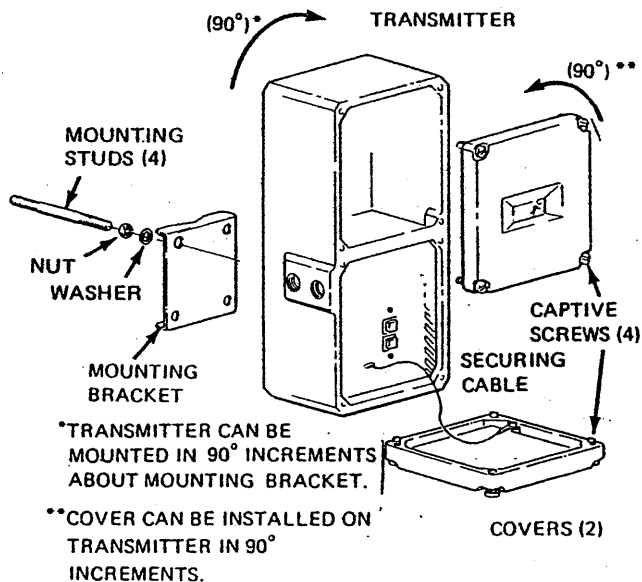

Figure 18.
Symmetrical arrangement of mounting holes in transmitter and mounting hardware allow transmitter to be turned about mounting bracket in 90° increments. This permits a variety of transmitter orientations as shown in Figure 18. Transmitter covers can also be turned in 90° increments by unscrewing four screws. This permits transmitter display and data plate to be turned so they can be easily read. When reinstalling terminations cover, make certain that securing cable (shown in Figure 18) is inserted fully behind cover and not crimped between cover and transmitter housing.
Certifying agencies require terminations cover to be permanently attached to transmitter. This is done by means of the securing cable (see Figure 18). DO NOT DISCONNECT COVER FROM CABLE.
2. Screw one nut fully onto each of the four mounting studs as shown in Figure 18. Slide one washer onto same end of stud as nut as shown.
Transmitter can be turned in 90° increments for mounting against surface as shown in Figure 20. Note that transmitter covers can also be turned in 90° increments by unscrewing four screws. This permits transmitter display and data plate to be turned so they can be easily read. When reinstalling terminations cover, make certain that securing cable (shown in Figure 18) is inserted fully behind cover and not crimped between cover and transmitter housing.